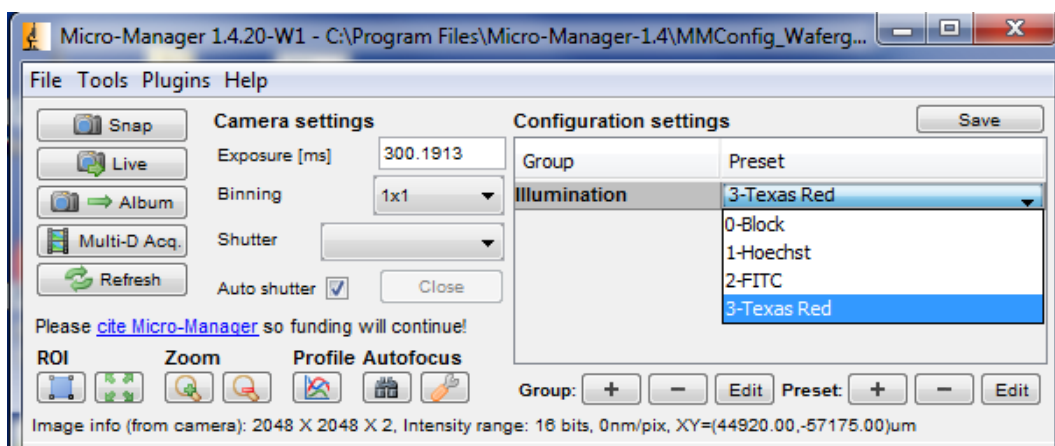

Figure 20. Setting the illumination channel to Texas Red.
12. In the *Main* window, under “Configuration settings”, select **Texas Red** as the illumination channel for examination of fiducial-containing nanowells (Figure 20).